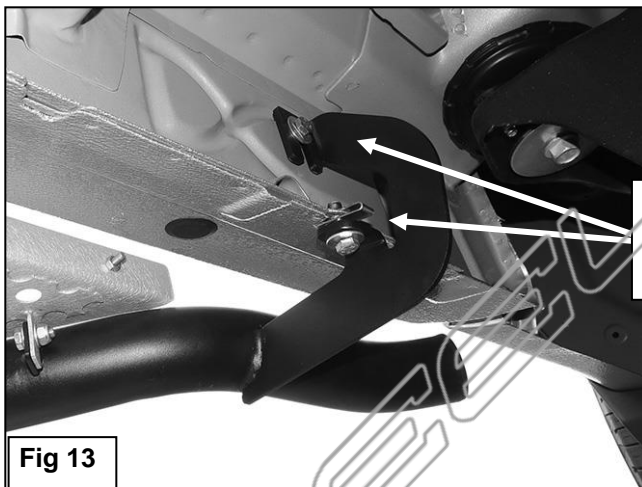

Fig 13
7. Hold the passenger side Running Board up to the side of the vehicle. Repeat **Steps 3 & 4** to first attach the Running Board to the 2nd, 3rd and 5th mounting locations, (**Figure 13**). Leave hardware loose.